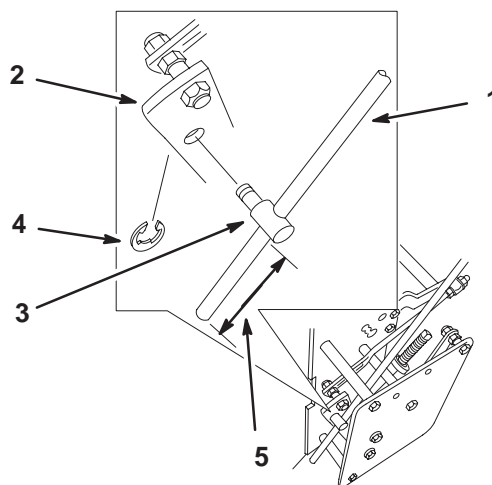

Figure 5
4. Thread rod fittings equal distance onto each control rod. For a starting point, thread rod fittings onto control rod approximately 2-1/2 in. (63.5 mm) from the bottom (Fig. 5).
5. Install rod fittings to idler brackets with clevis pins and e-ring (Fig. 5).
1. Place the speed control lever full forward (Fig. 5).
2. Thread yoke onto speed control rod approximately 3/4 in. (19 mm) (Fig. 5).
3. Install yoke to the speed control crank with a clevis pin, washer and hairpin cotter (Fig. 5).
4. Secure yoke with jam nut (Fig. 5).